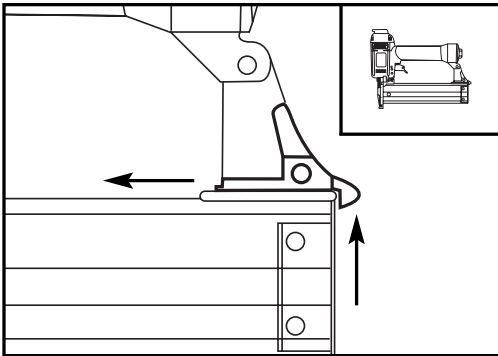

Figure 1. Releasing magazine latch.
2. Flip the magazine latch in the direction shown in **Figure 1**.